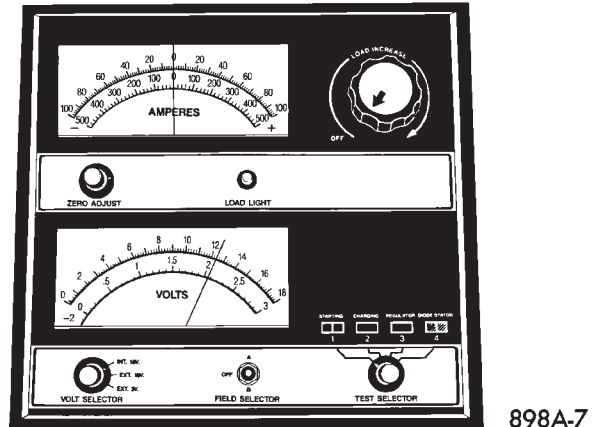

Fig. 9 Testing Open Circuit Voltage
(3) Allow the battery to stabilize for 2 minutes, and then verify the open circuit voltage (Fig. 9).
- (1) From under front wheelhouse, remove access cover behind parking and turn signal lamp.
- (2) Through access hole in wheelhouse, rotate parking and turn signal socket counterclockwise one quarter turn.
- (3) Pull socket from back of lamp (Fig. 9).
- (4) Pull bulb from socket.